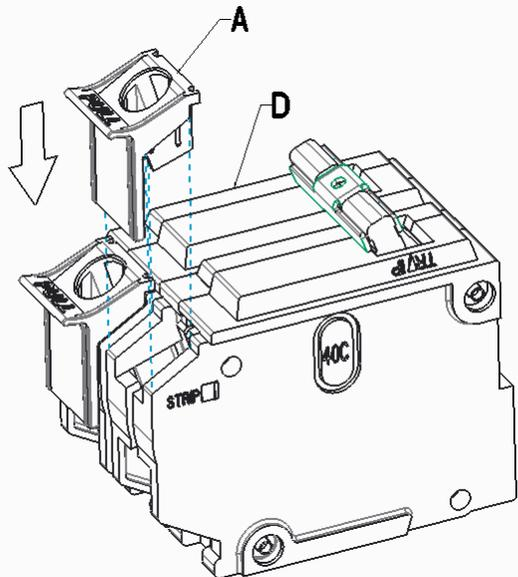

Figure 1: Insert Service Barrier onto Main Circuit Breaker
1. Insert the Service Barriers (A) onto line side of main circuit breaker (D) as shown in Figure 1. Two Service Barriers included with the kit, need to assemble to both the poles.